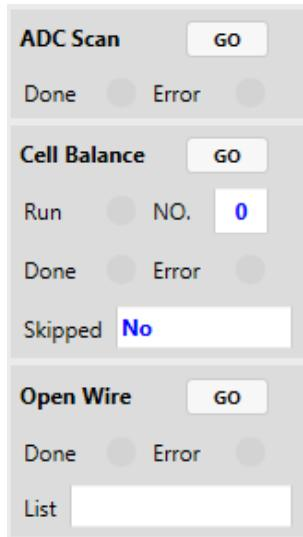

Figure 39: ADC, Cell-Balancing and Open-Wire Control and Monitor
7. Configure the ADC, cell balance, and open-wire control parameters (see Figure 39).